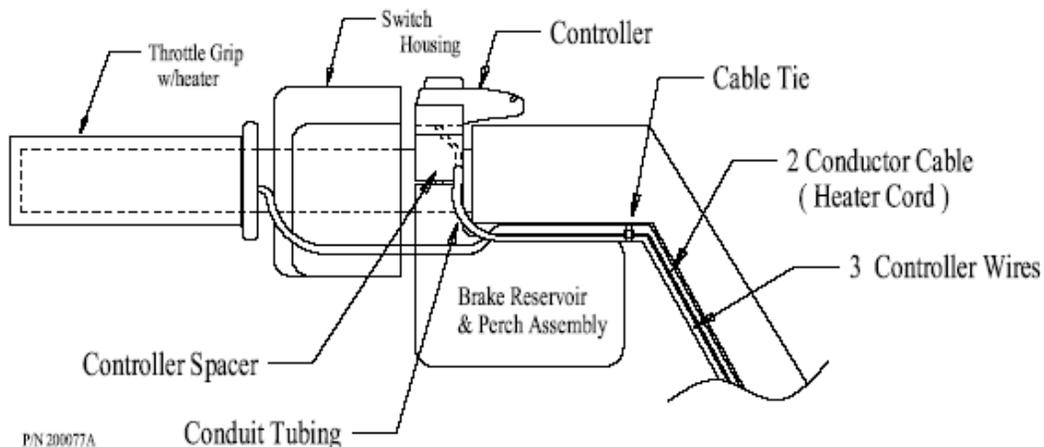

Fig 1
6. Peel off the release paper and adhere the heater to the throttle sleeve with the wires toward the headlight. On the GL1800 and GL1500 remove the cover from inside of the handlebar on the throttle side and route the throttle heater wires to this area where they will connect later to the other wires. Add wire ties as required but leave a loop in the cable as shown in FIG 1 (below) to assure there is free rotation of the throttle.
2. Along with the Controller a new spacer and longer 40mm screws are also utilized as shown in FIG 1 above. The wires from the Controller are fed through the round top of the spacer and out the bottom. Because the Controller and spacer can be mounted on the Throttle or Clutch side there are 2 angled holes and there is a relief in the underside of the spacer for the cable to go either direction. Assemble the Controller and Spacer so the bottom shape of the Spacer matches the shape of the perch assembly and the wires exit on the bottom side.